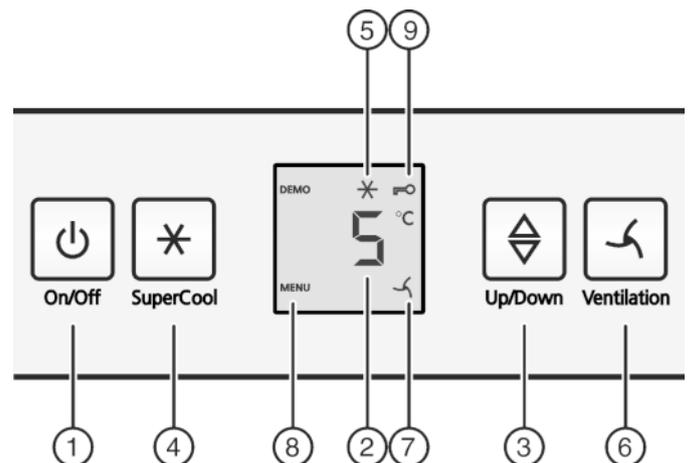

Fig. 3
- ▶ Press the On/Off button *Fig. 3 (1)*.
- ▶ Press the SuperCool button *Fig. 3 (4)* for about 5 seconds.
- ▷ The Menu symbol is shown on the display, *Fig. 3 (8)*.
- ▶ Confirm briefly with the SuperCool button *Fig. 3 (4)*.
- ▷ The child lock symbol, *Fig. 3 (9)*, lights up on the display.
- ▶ Briefly press the On/Off button *Fig. 3 (1)*.
- ▶ Call up temperature function: press the setting button *Fig. 3 (3)*.
- ▶ Change the temperature in 1 °C steps: Press the setting button *Fig. 3 (3)* until the required temperature is indicated in the temperature display.
- ▶ Briefly press SuperCool button *Fig. 3 (4)*.
- ▷ The SuperCool symbol *Fig. 3 (5)* lights up in the display.
- ▷ The SuperCool symbol *Fig. 3 (5)* goes out in the display.
- ▶ Briefly press the fan button *Fig. 3 (6)*.
- ▷ The fan symbol *Fig. 3 (7)* shines.
- ▷ The fan symbol *Fig. 3 (7)* goes out.